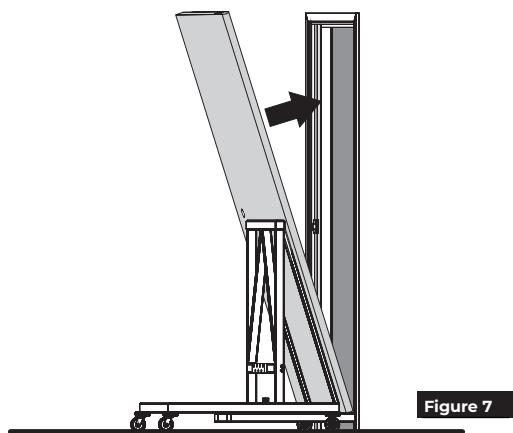

Figure 7
**Caution: Know weight of door before attempting to install. Determine proper equipment needed to prevent door from falling. (Figure 7)**
1. Set door on floor pivot spindle and tilt top of door pivot portion into top jamb portion. (Figure 7)
**Caution: Know weight of door before attempting removal from frame. Determine proper equipment needed to prevent door from falling. (Figure 7)**